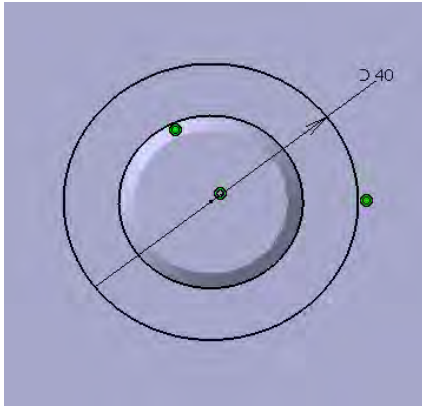

Figure 11-87 Sketch of Pad feature for creating Guide Bush
2. Select the top face of the Guide Pillar as the sketching plane and draw two concentric circles. Make the inner circle coincident with the outer edge of the Guide Pillar and apply dimension to the outer circle, as shown in the Figure 11-87.